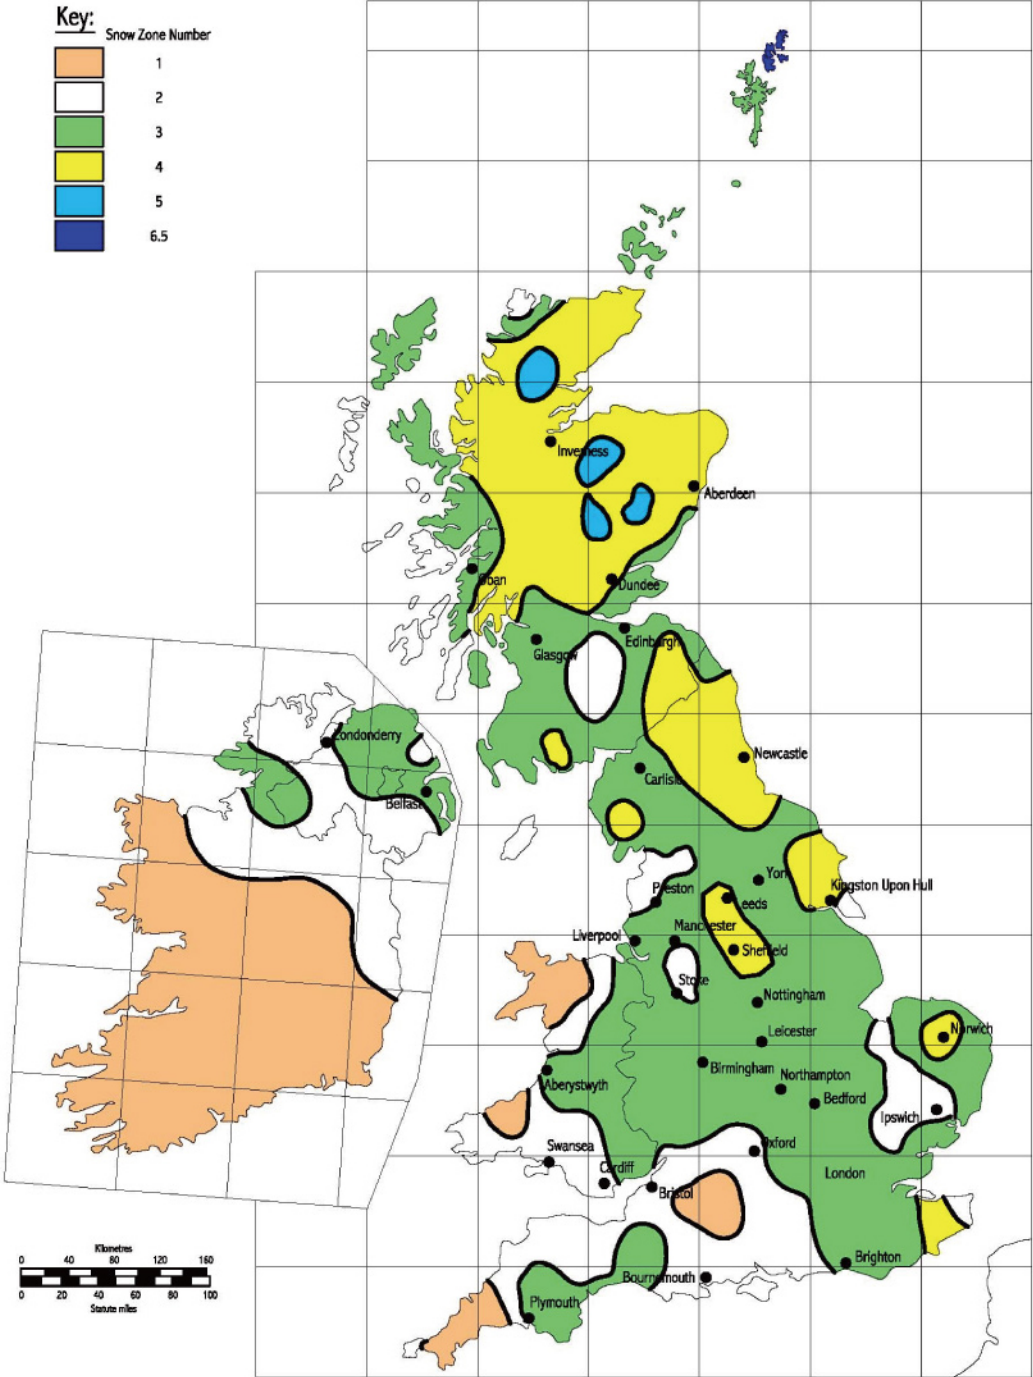

Fig 5. Snow zone locations.
- Snow zone number, (see Fig 5)
3.10.1 The snow map below (Fig 5) shows the characteristic ground snow action zones and is used along with the site altitude to determine the characteristic value of ground snow loading for the installation site.